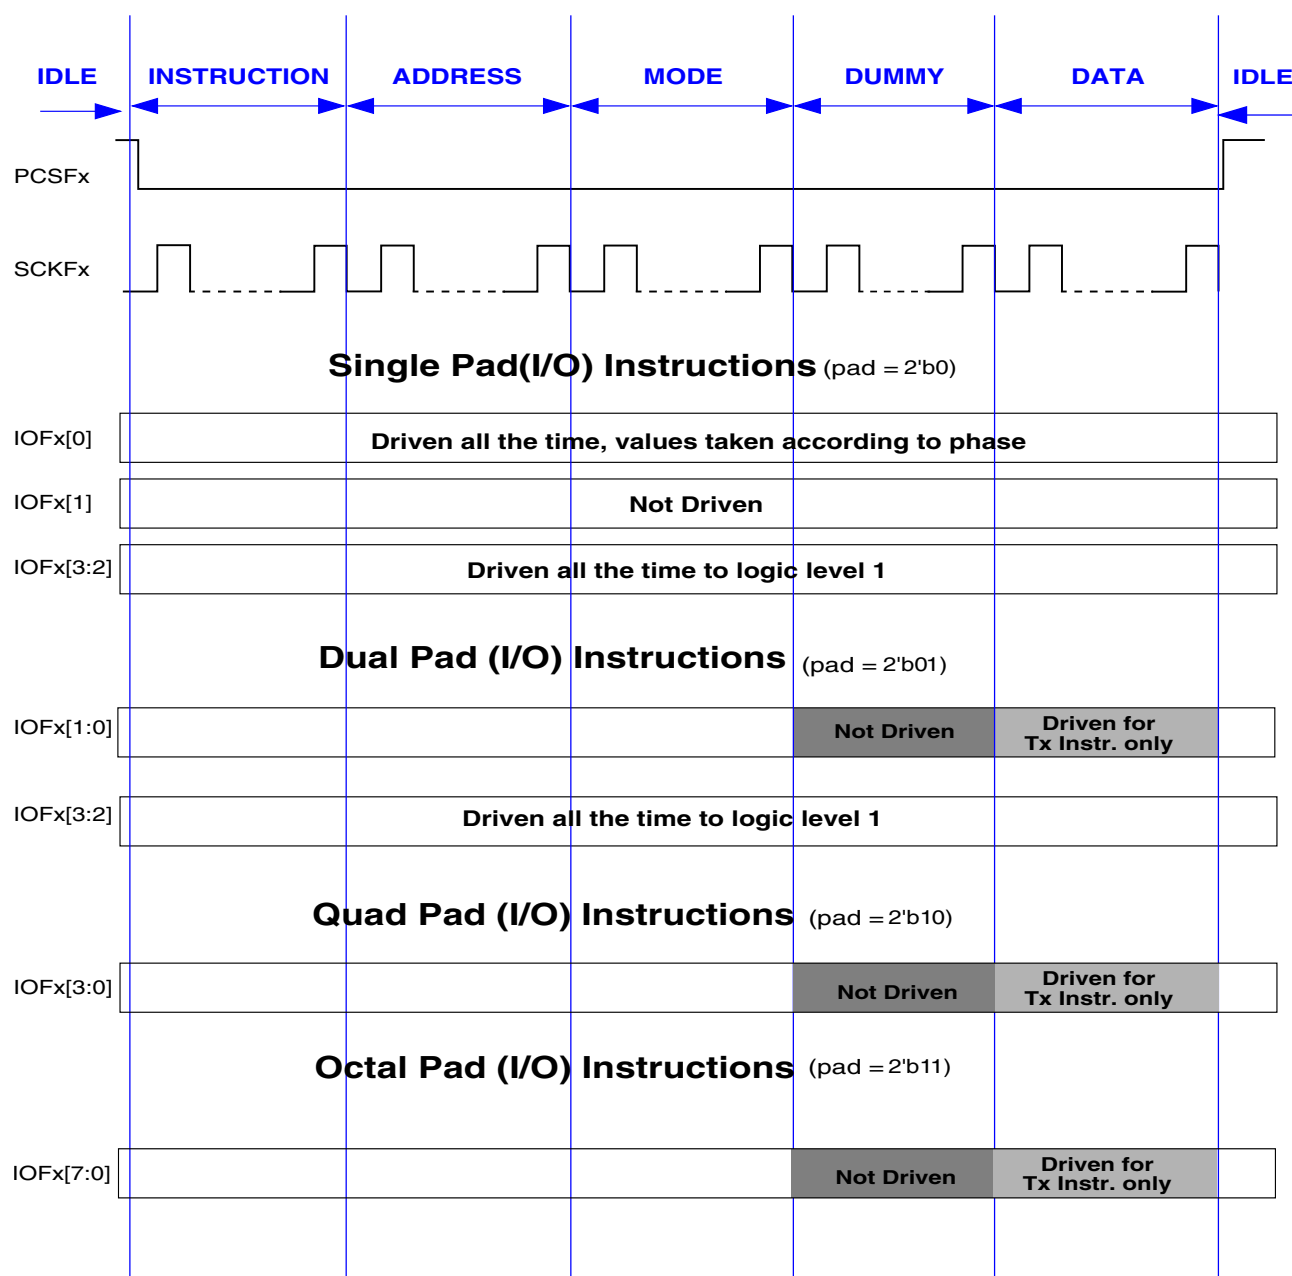

Figure 34-3. Serial Flash Access Scheme
- **DUMMY:** Dummy clocks are provided to the serial flash device. Refer to the Figure 34-3 for the IOFx signals driven. The actual data lines required for the SFM Command executed are not driven for data read commands. Note that this phase is not applicable for all SFM Commands.